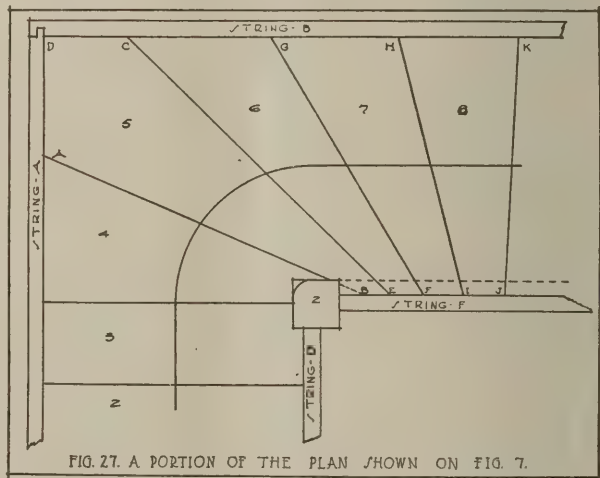
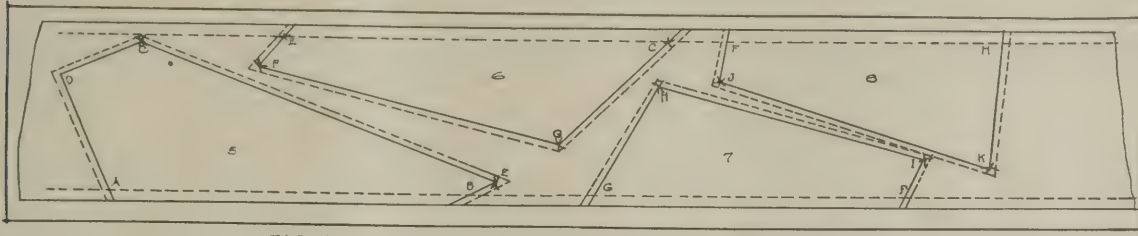
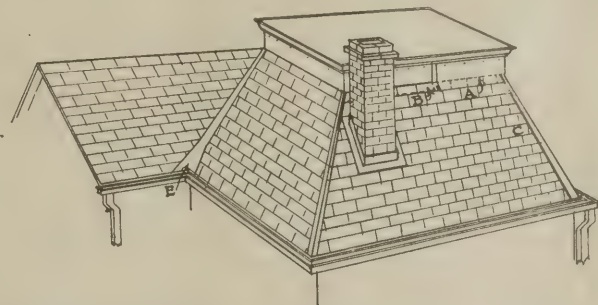

FIG. 27. A PORTION OF THE PLAN SHOWN ON FIG. 7.
FIG. 28. METHOD OF LAYING OUT THE WINDERS.
Fig. 7. A roof deck. At A is shown a finish with metal overlapping shingles; at B the metal is under the shingles
**T**O lay out the winders select a length of stock wide enough or glue up two or more pieces to make up the width and draw a line parallel with each edge a distance equal to the projection of the nosing, which is usually the thickness of the tread, shown by the dotted lines, Fig. 28. Referring to Fig. 27, which is a section of the plan, Fig. 7, the riser lines are only represented on the plan, so that if the measurements are taken on this line they must also be applied on a corresponding position on the plank from which the treads are to be cut or  $\frac{1}{2}$  inch from the edge in this particular (one-third full size) problem.
To Lay out tread 5 use a thin measuring rod of convenient length and lay on the riser line, Fig. 27, marking the distance A-B. Transfer this distance on the riser line, Fig. 28, A-B. With a pair of dividers or trammel points and A as a center (Fig. 27) set to the radius A-C. With A, Fig. 28, as a center and the same radius strike an arc approximately in the position of C. With B as a center, Fig. 27, set again to the radius of B-E. With B, Fig. 28, as a center and the same radius strike an arc approximately in the position of E; Lay the measuring rod diagonally from A to E, Fig. 27, marking this distance. Lay the measuring rod on the plank, Fig. 28, with one mark on A and move the rod around until the other mark or length on the rod cuts the arc as at E. Connect E-B with a straight line. Lay the measuring rod diagonally from B to C, Fig. 27, marking this distance. Lay the rod on the plank, Fig. 28, with one mark on the letter B and move the rod around until the outer mark or length cuts the arc as at C. Connect E-C with a straight line. With A, Fig. 27, as a center set the dividers to the radius A-D. With A, Fig. 28, as a center and the same radius strike an arc approximately in the position of D. With C, Fig. 27, as a center, set the dividers to the radius C-D. With C, Fig. 28, as a center and the same radius strike an arc cutting the previous arc, locating the point D. Connect A and D and D and C. This gives the exact shape of the face of the tread that is seen. Proper allowance must be made for entering the housing as shown by the dotted lines
Fig. 28 and also some allowance for fitting. Along the lines A-D, D-C and B-E allow  $\frac{5}{16}$  of an inch for housing as shown by the dotted lines; along the line C-E allow at least  $\frac{1}{4}$  inch for fitting, cut on the dotted lines. In laying out, housing and assembling, there is sure to be some variation from the original measurements laid out on the floor, due to the inaccuracy of the mechanic. This is to be expected and does not materially affect the job. By allowing stock for fitting as suggested and placing the tread in position in the strings and marking where the next succeeding riser lines come, any variation can be readily overcome and a neat and tight job will be insured.
To lay out tread 6 use the same measuring rod after planing off the old marks and lay on the riser line, Fig. 27, marking the distance C-E. Transfer this distance on the riser line, Fig. 28, C-E; with a pair of dividers and C as a center, Fig. 27, set to the radius C-G. With C, Fig. 28 as a center and the same radius strike an arc approximately in the position of G; with E as a center, Fig. 27 set again to the radius E-F. With E, Fig. 28 as a center and the same radius strike an arc approximately in the position of F. Lay the measuring rod diagonally
marking the distance C-F, Fig. 27. Lay the measuring rod on the plank, Fig. 28, with one mark on C and move the rod around until the other mark or length on the rod cuts the arc at F. Connect E-F. Lay the measuring rod diagonally marking the distance E-G, Fig. 27. Lay the measuring rod on the plank Fig. 28 with one mark on E and move the rod around until the other mark or length on the
ing rod on the plank, Fig. 28, with one mark on G and move the rod around until the other mark or length on the rod cuts the arc as at I. Connect F-I. Lay the measuring rod diagonally marking the distance F-H, Fig. 27. Lay the measuring rod on the plank, Fig. 28, with one mark on F and move the rod around until the other mark or length intersects the arc as at H. Connect G-H and H-I. Along the
To lay out tread 7 use the measuring rod as before planing off all old marks and lay on the riser line, Fig. 27, marking the distance G-F. Transfer this distance on the riser line, Fig. 28, G-F; with a pair
To lay out tread 8 use the measuring rod again planing off the old marks and lay on the riser line, Fig. 27, marking the distance H-I. Transfer this distance on the riser line, Fig. 28, H-I; with a pair of dividers and H as a center, Fig. 27, set to the radius H-K. With H as a center, Fig. 28 and the
of dividers and G as a center, Fig. 27 set to the radius G-H. With G as a center, Fig. 28 and the same radius strike an arc approximately in the position of H; with F as a center, Fig. 27, set again to the radius F-I. With F, Fig. 28, as a center and the same radius strike an arc approximately in the position of I. Lay the measuring rod diagonally marking the distance G-I, Fig. 27. Lay the measur-
same radius strike an arc approximately in the position of K. When I as a center, Fig. 27, set again to the radius I-J. With I as a center, Fig. 28, and the same radius strike an arc approximately in the position of J. Lay the measuring rod diagonally marking the distance H-J, Fig. 27. Lay the rod on the plank, Fig. 28, with one mark on H and move the rod around until the other mark or length on
the rod cuts the arc as at J. Connect I-J. Lay the measuring rod diagonally marking the distance I-K, Fig. 27. Lay the rod on the plank, Fig. 28, with one mark on I and move the rod around until the other mark cuts the arc as at K. Connect H-K and J-K. Along the lines H-K and I-J allow stock for housing and along the line J-K allow stock for fitting.
The shingles are laid up to, and abutt the facia, as shown at B in the illustration Fig. 7. Finishing shingles may be used to lay over the flashing, obviating metal exposure, the finishers are nailed close up to the deck, and nail heads are covered with colored putty. There are also on the market specially prepared cements that will give better service than ordinary putty. In some localities, and preferably so, the metal flashing is extended down and over the nail heads on top of the finishers as at A, and can be made to lay flat, without kink upon the shingles by giving the bottom edge of the flashing the fold x, and a slight bend xx as shown in Fig. 8.
E, indicates the valley, enlarged at the bottom, as previously described and illustrated (see Fig. 5, Part 1). The top corner of Fig. 7, comprising the chimney, hip, deck, valley and a comb, all bunched in a very small space must be laid with pains, taking care to insure satisfaction, which can be secured only